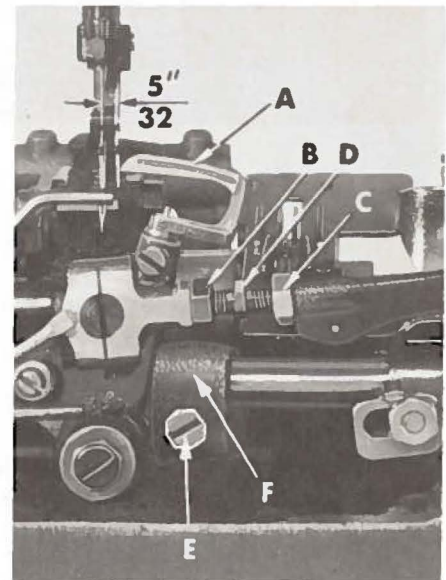

Fig. 2
Insert a new needle, type and size as specified, with spot or scarf to the rear. With the looper (A, Fig. 2) at its farthest position to the right, its point should be $5/32$ inch from the centerline of the needle. If adjustment is required, loosen nut (B) (it has a left hand thread) and nut (C) on connecting rod (D) and turn the connecting rod forward or backward to obtain the $5/32$ inch dimension (Fig. 2). Looper gauge No. 21225- $5/32$ can be used advantageously in making this adjustment. Retighten both nuts, first nut (C), then nut (B). Make sure the left ball joint is in vertical position and does not bind after adjustment.
The looper is set correctly in-line-of-feed, as it moves to the left behind the needle, when its point passes as close as possible without contacting the needle. If adjustment is necessary, loosen screw (E, Fig. 2) in looper rock shaft arm (F), reposition looper as required and retighten screw (E).